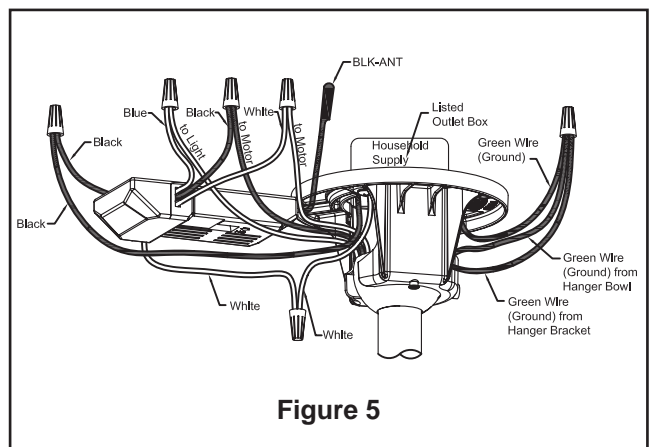

Figure 5
5. Reinstall the hanger ball on the downrod as follows. Route the three 80-inch wires through the hanger ball. Position the pin through the two holes in the downrod and align the hanger ball so the pin is captured in the groove in the top of the hanger ball. Pull the hanger ball up tight against the pin. Securely tighten the set screw in the hanger ball. A loose set screw could create fan wobble (Figure 5).
4. Connect green wires from hanger bracket and hanger ball to bare (ground) wire using wire connector supplied. Connect black wire from receiver unit marked "AC IN L" to black supply wire using wire connector supplied. Connect white wire from receiver unit marked "AC IN N" to white supply wire using wire connector supplied. Connect white wire from receiver unit marked "TO MOTOR N" to white wire from fan using wire connector supplied with receiver. Connect black wire from receiver unit marked "TO MOTOR L" to black wire from fan using wire connector supplied. Lastly, connect blue wire from receiver to the blue fan light wire using wire connector supplied. Position all connected wires and receiver antenna to allow installation of ceiling canopy (Figure 5).
- 5. Remove one of the three screws in the housing light kit assembly. Slightly loosen the remaining two screws. Assemble the socket plate to the light plate assembly using the two key slots. Replace the third screw and securely tighten all three screws (Figure 5).